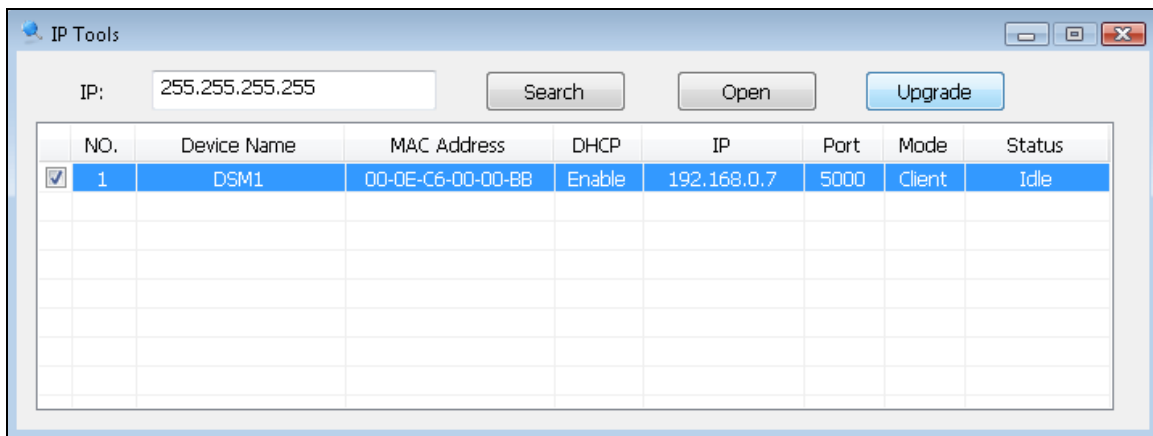

Figure 22
3. Launch the IP Tools application as referenced in Section 3.7, and locate the ObserverIP on your network. Reference Figure 22. Select the Upgrade button to begin the firmware upgrade. As shown in this figure, the IP address of the ObserverIP is 192.168.0.7. Make a note of your IP address (your results will vary).